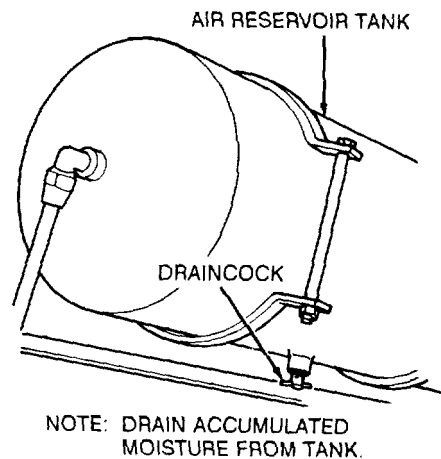

Figure 50. Air system reservoir service.
- c. Service the air reservoir (fig. 50).